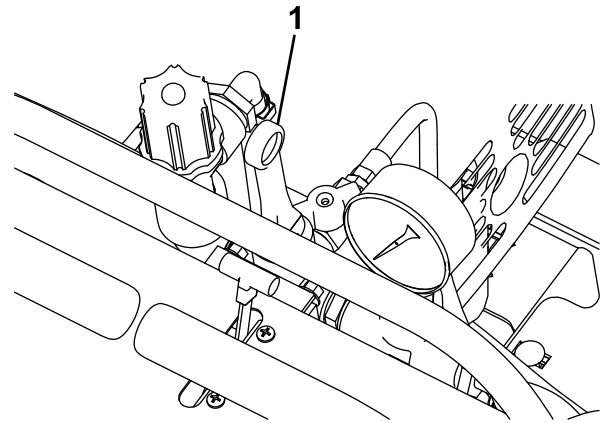

Figure 20
3. Open the sprayer valve to begin spraying (Figure 20).